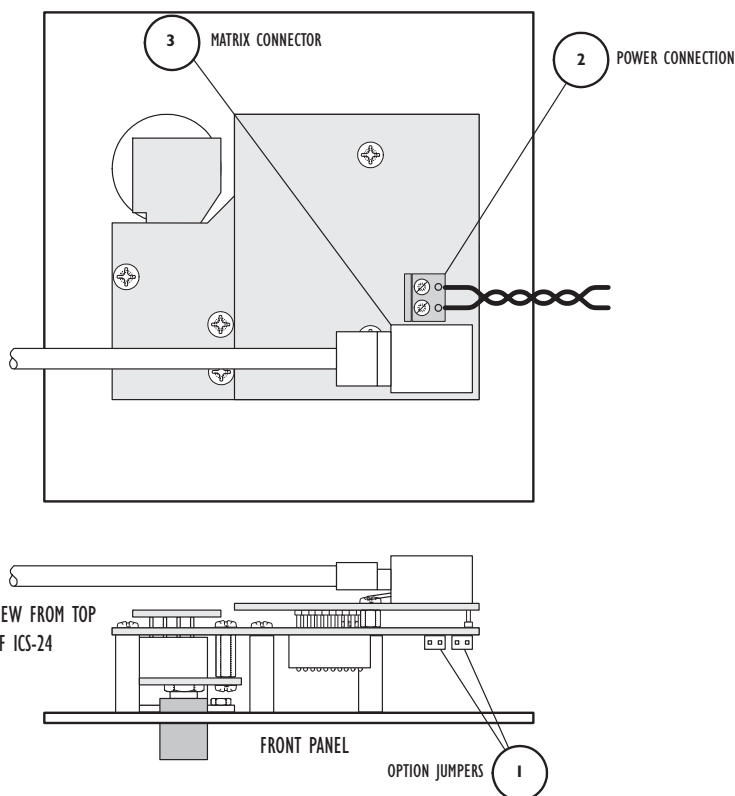

Figure 1-2: ICS-24 Internal Adjustments and Connections
4. Plug this connector onto the circuit board as shown in Figure 1-2 on page 1-6.
1. Connect the 14- to 18-VAC power to the two-position terminal strip. Plug the terminal strip onto the P2 as shown in Figure 1-2 on page 1-6.
2. Connect the eight-wire, modular RJ-45 connector to J1 as shown in Figure 1-2 on page 1-6.